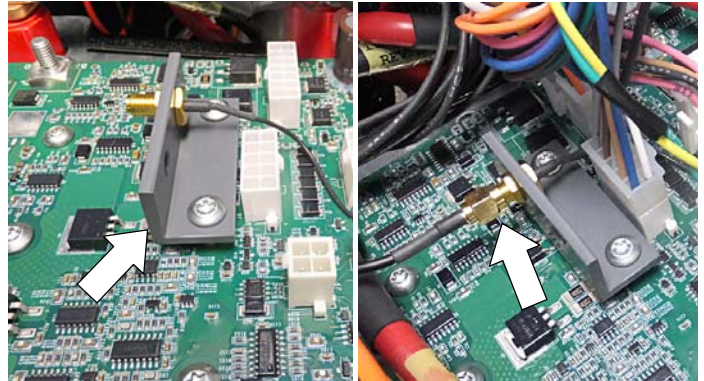

Fig. 8
- Mount the new circuit board to the heat-sink panel using existing hardware (Figure 8). Reinstall the antenna bracket with two spacers as shown. Reconnect the antenna wire to the new control board.